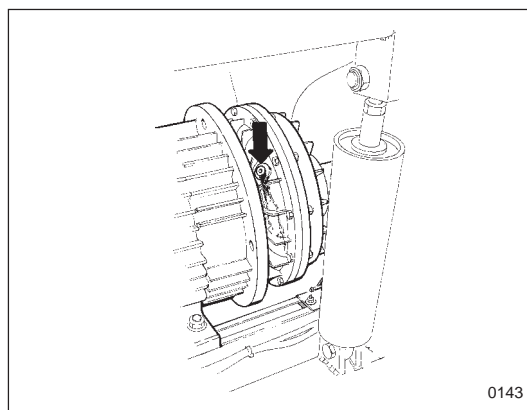

Figure 8.
- turn the hydraulic clutch so that the refill plug, figure 8, is in an upright position